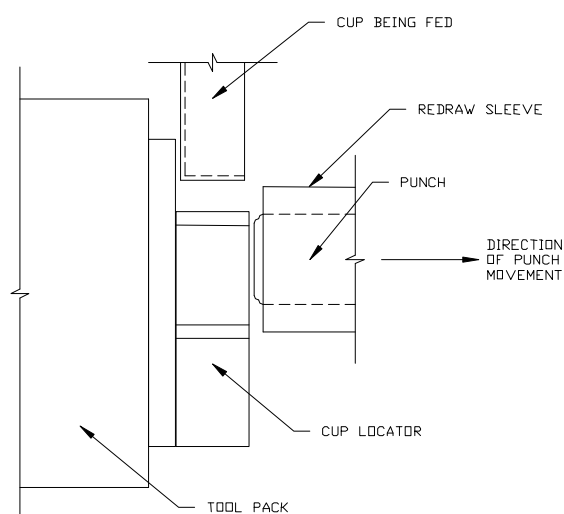

Figure 3 - Location of Ram at "Cupfeed Time" Position
- 1) Inch or bar the ram to the position where the punch has just opened to the point where the cup could first be loaded (this is when the ram is on the back stroke). See figure 3.